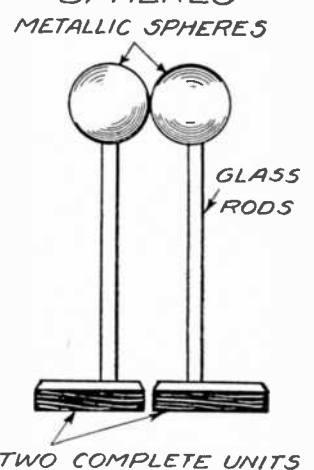

FIG. 4
The ratchet wheel can be taken from an old clock, phonograph motor, or anything that requires winding. The pawl to pull it down when the electromagnet gets an impulse can be filed from a piece of strap iron. The various springs, indicated in Figure 4, are cut with tin shears from the springs of an old alarm clock. The bearings are made by drilling holes in brass, and should not be too tight.
By knowing this fact we can perform a trick that will puzzle the most sophisticated "scientist" in any audience. Provide yourself with a glass rod and silk, two insulated metal spheres (Fig. 4), and an electroscope. Electrify the glass rod and charge the electroscope positive with it by contact. Then place the two metal spheres in contact and touch them with the glass rod. Demonstrate to the audience that they both cause the leaves to
(U) is a drive pulley, grooved to receive a round belt, and it will be understood that all this will be made of one piece of wood. Figures 4 and 5 show very clearly how the discs (A) and (A) are cemented to the hubs (N) and (N). The tinfoil pieces are on the outside of the discs and face the equalizers (G) and (G), Figure 4. The portion (S) of the hub operates to prevent the plates while being turned from approaching each other closer than .2 inch. If the holes in the center of the plate are too small, they can be reamed out; this requires the utmost care, because some records break with great readiness.